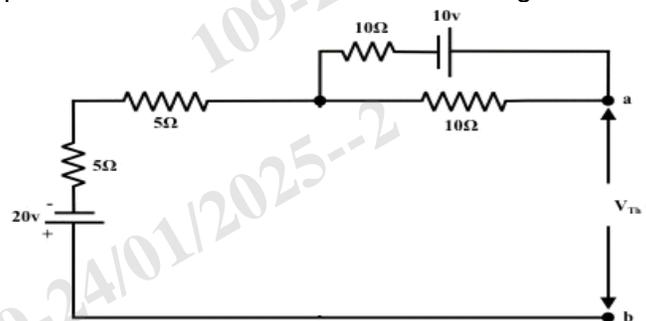

Fig. 3
- h) Draw Thevenin's equivalent circuit of the circuit shown in Figure 3.